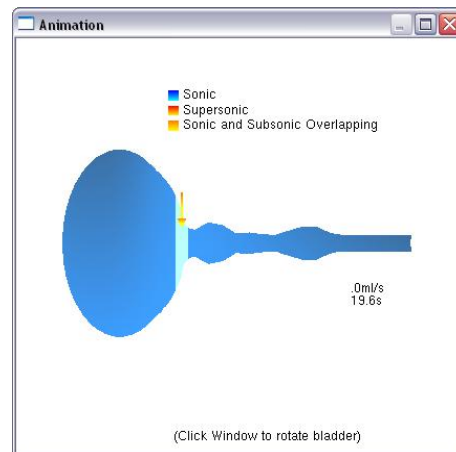

Figure 170: Animation window
- Select **Animation** to open the animation window (Figure 170).
The *Animation* window displays a simulated model of the bladder for the current patient (Figure 170).